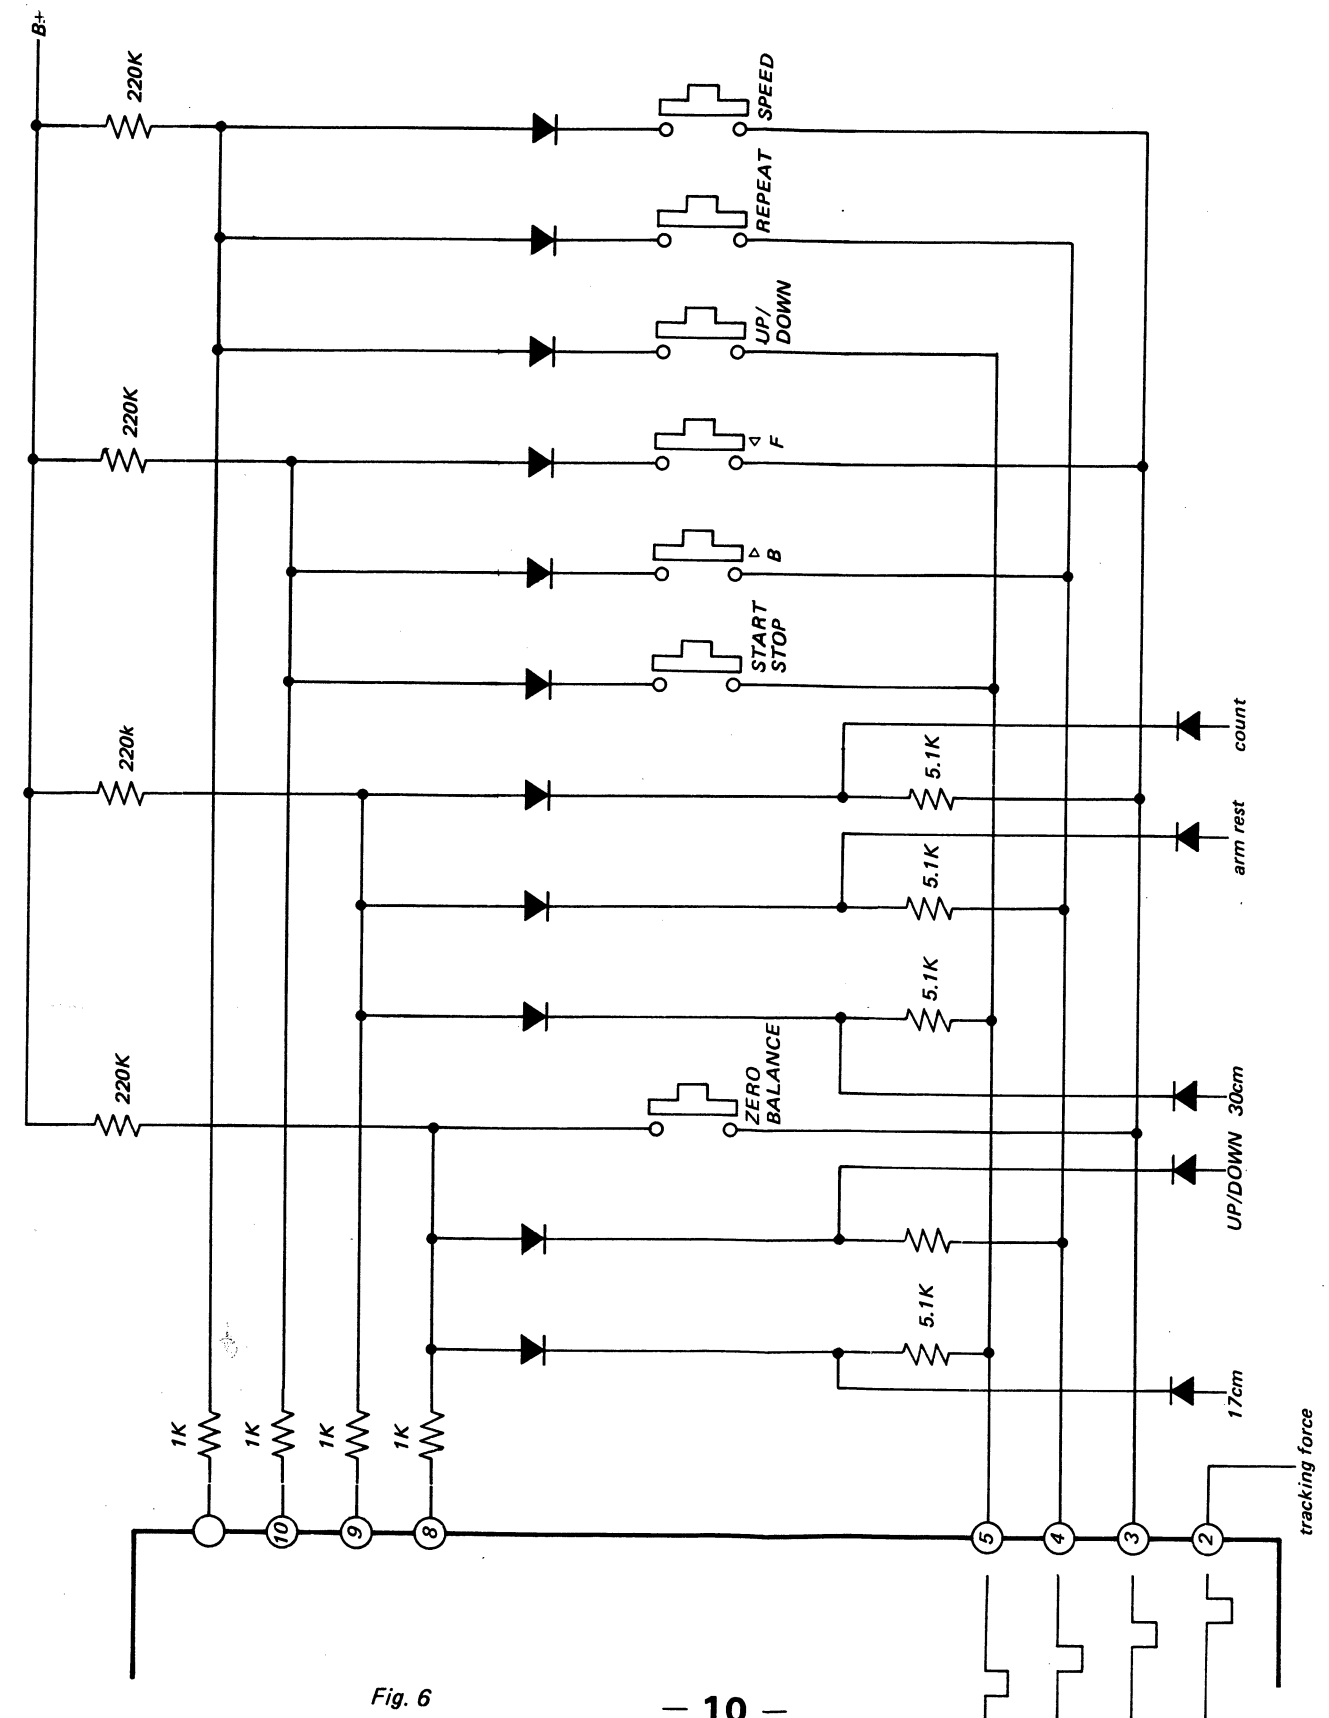

Fig. 6
Figure 6 sl
Figure 6 shows part of the key input circuit. ② - ⑤ are input pins. When pins ② - ⑤ are made low in order, the microcomputer program controls the state depending on the state of pins ⑧ - ⑪.